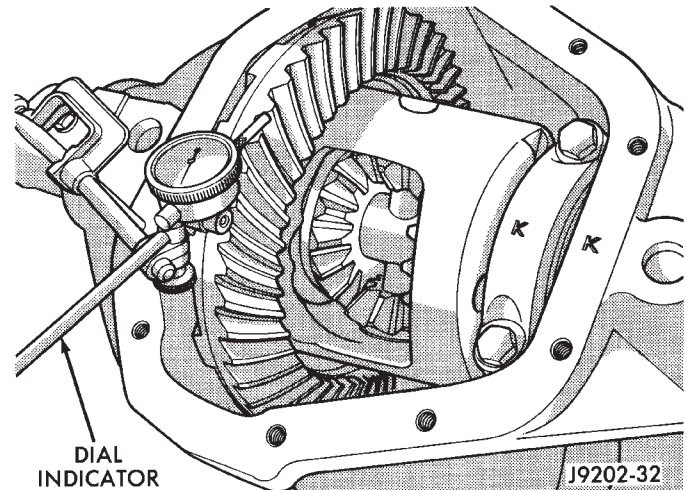
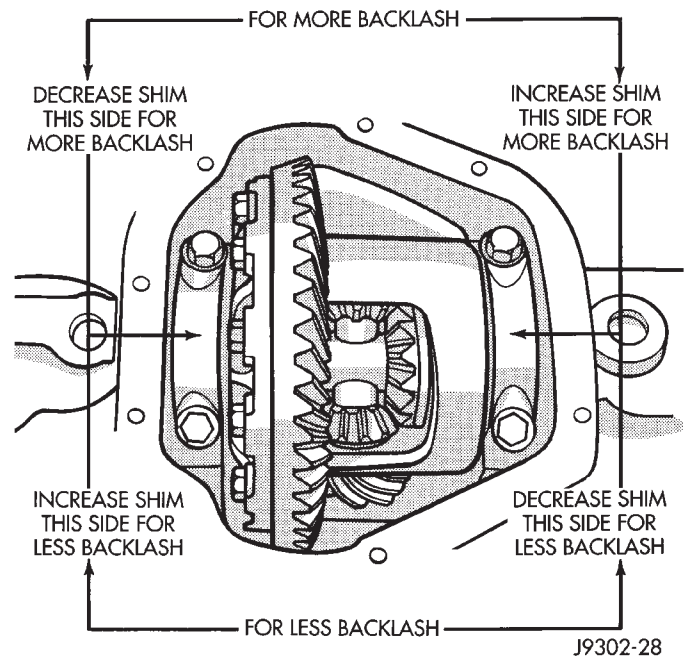

Fig. 73 Ring Gear Backlash Measurement
Fig. 74 Backlash Shim Adjustment
(26) Subtract 0.002 in. (0.05 mm) from the dial indicator reading to compensate for backlash between ring and pinion gears. This total is the thickness shim required to achieve proper backlash.
(27) Subtract the backlash shim thickness from the total preload shim thickness. The remainder is the shim thickness required on the pinion side of the axle housing.
(28) Rotate dial indicator out of the way on guide stud.
(29) Remove differential case and dummy bearings from axle housing.
(30) Install side bearing shims on differential case hubs.
(31) Install new side bearing cones and cups on differential case.
(32) Install spreader W-129-B on axle housing and spread axle opening enough to receive differential case.
(33) Install differential case in axle housing. Refer to Differential Removal and Installation paragraph.
(34) Remove spreader from axle housing.
(35) Rotate the differential case several times to seat the side bearings.
(36) Position the indicator plunger against a ring gear tooth (Fig. 73).
(37) Push and hold ring gear upward while not allowing the pinion gear to rotate.
(38) Zero dial indicator face to pointer.
(39) Push and hold ring gear downward while not allowing the pinion gear to rotate. Dial indicator reading should be between 0.12 mm (0.005 in.) and 0.20 mm (0.008 in.). If backlash is not within specifications transfer the necessary amount of shim thickness from one side of the axle housing to the other (Fig. 74).
(40) Verify differential case and ring gear runout by measuring ring to pinion gear backlash at several locations around the ring gear. Readings should not vary more than 0.05 mm (0.002 in.). If readings vary more than specified, the ring gear or the differential case is defective.